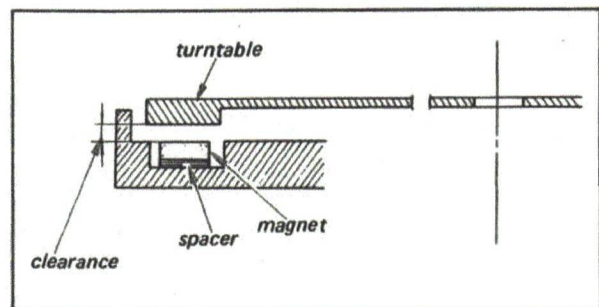

Fig. 2-7. Electromagnetic brake adjustment
1. First of all, confirm that the turntable does not touch with the magnet on the turntable base (See Fig. 2-7). If it does, adjust the magnet height by replacing spacer. Three kind of spacer are available as specified in table below. To remove the magnet and spacer, apply a few drops of cement solvent to them.